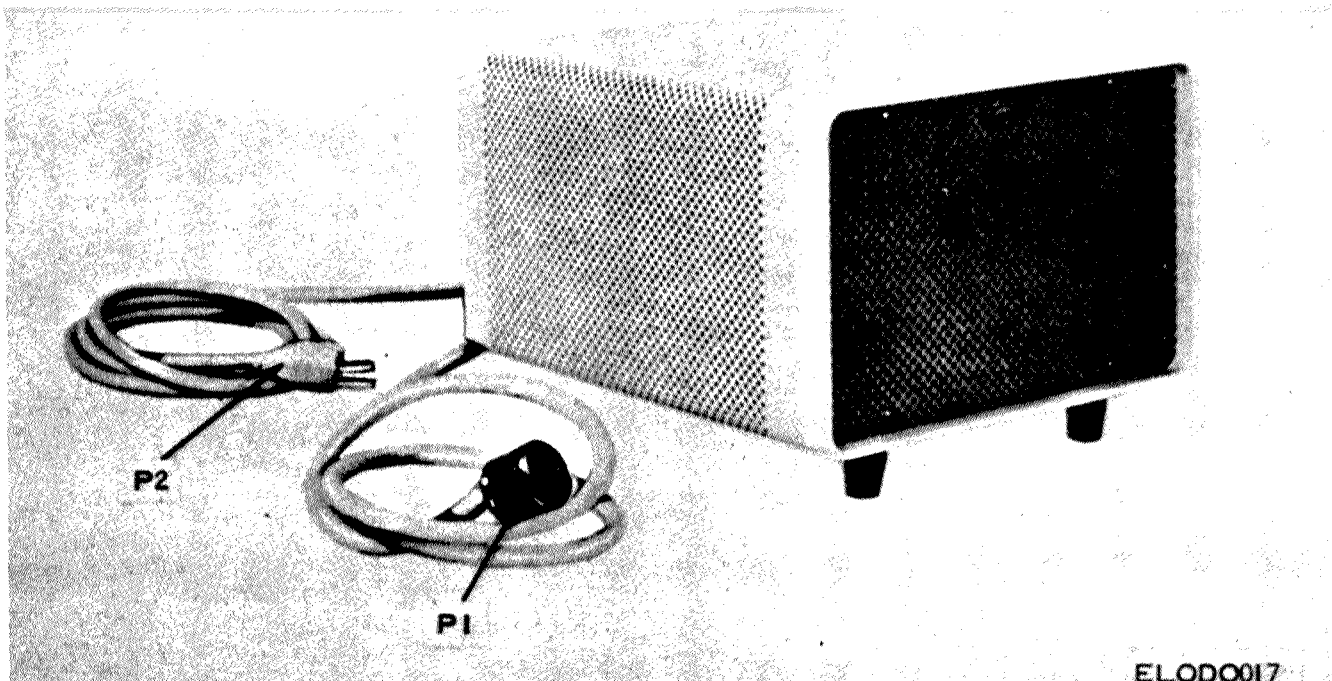

Figure 7-6. Power Supply PP-4151/FRC -93 S. location of power plugs P1 and P2.
**7-7. Description (fig. 7-6).**